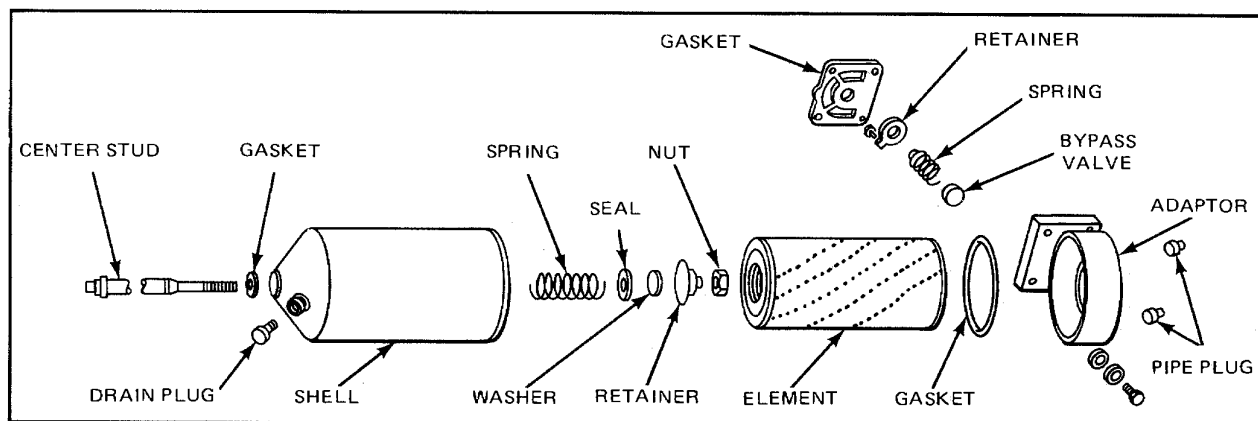

Figure 2. Full-Flow Oil Filter Details and Relative Location of Parts
Replace the element in either the full-flow or bypass-type oil filter assembly (Fig. 2) as follows:
5. Remove and discard the element retainer seal (Fig. 2). Install a new seal.